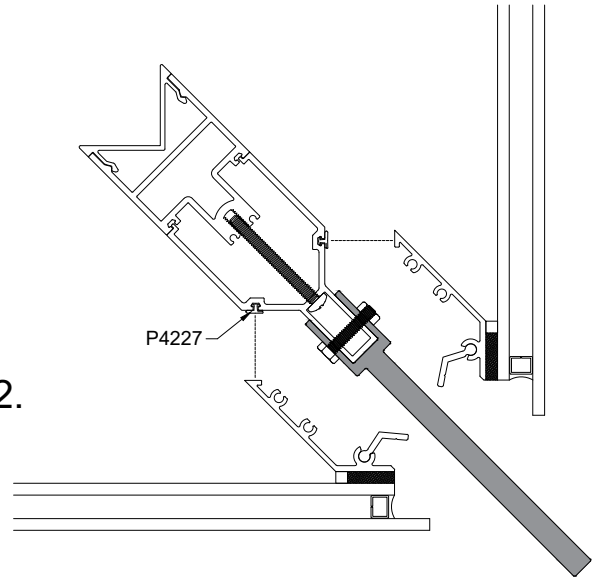

FIG. 11.1
- 3) Verify perimeter gasket P4227 has been installed. Fig. 11.1.